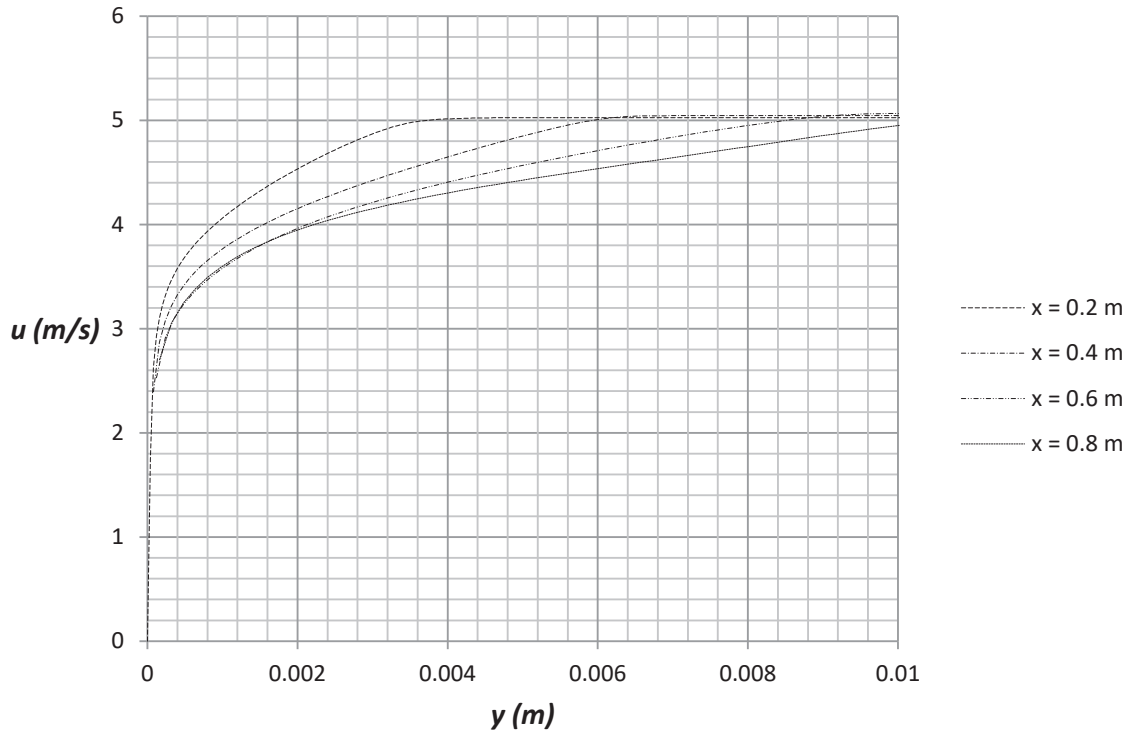

Figure 2.30a) Comparison of turbulent boundary layers at $Re_x = 10^6 - 4.04 \cdot 10^6$
30. Place the file “**graph 2.30a**” on the desktop. Repeat step **24** and choose the sketch **x = 0.2, 0.4, 0.6, 0.8 m** and check the box for **Velocity (X)**. Rename the *xy*-plot to **Turbulent Velocity Boundary Layer**. An Excel file will open with a graph of the streamwise velocity component versus the wall normal coordinate, see figure 2.30a). We see that the boundary layer thickness is much higher than the corresponding laminar flow case. This is related to higher Reynolds number at the same streamwise positions as in the laminar case. The higher Reynolds numbers are due to the selection of water as the fluid instead of air that has a much higher value of kinematic viscosity than water.
As an example, the turbulent boundary layer thickness from figure 2.30a) is 3.49 mm at $x = 0.2$ m which can be compared with a value of 4.45 mm from equation (2.4), see table 2.2.
- 2.6 Determine the displacement thickness, momentum thickness and shape factor for the turbulent boundary layers in figure 2.30a) and determine the percent differences as compared with empirical data.